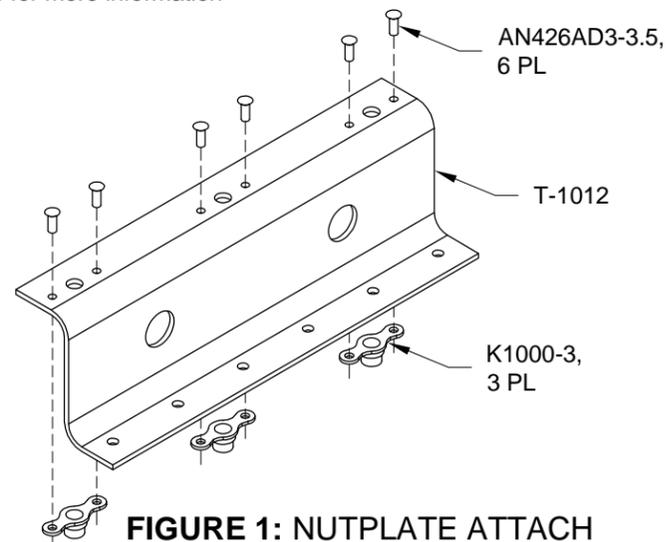

FIGURE 1: NUTPLATE ATTACH ZEE SUBASSEMBLY
Step 1: Rivet nutplates to the T-1012 Tank Attach Zees as shown in Figure 1. See Section 5.16 for more information on installing nutplates.
Step 3: Remove the protective vinyl coating from the inside surface of the T-00001-L Tank Skin. Place the T-00001-L Fuel Tank Skin in the assembly cradle. See Page 17-04, Figure 1.
Step 5: Cleco the T-00002 Tank Baffle to the T-00001-L Fuel Tank Skin. See Page 18-01. Proper orientation of the tank baffle places the flange with the "extra" hole on the bottom. See Page 18-08, Figure 1.